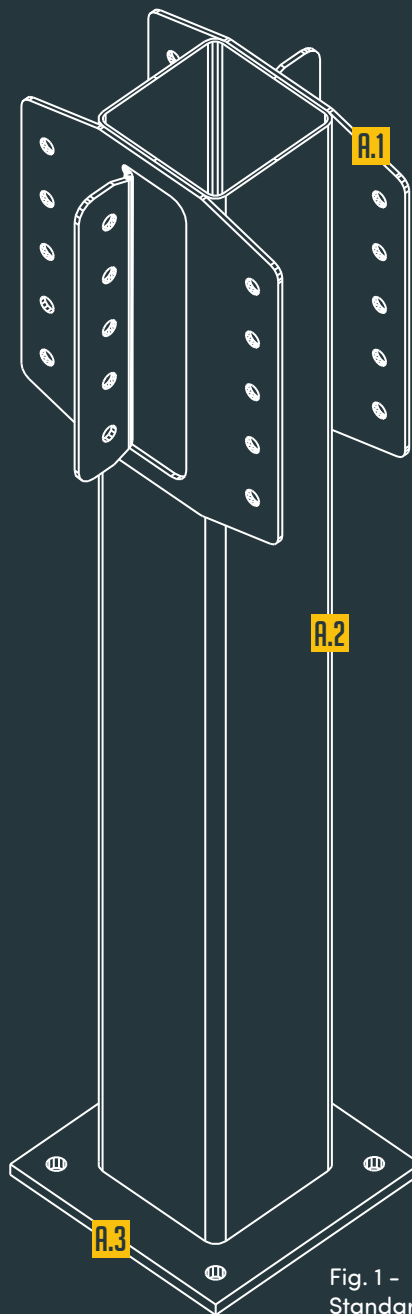

Fig. 1 - Standard footplate
- cross-section 200 x 200 x 10 mm or 300 x 300 x 15 mm, defined according to the loads to be transmitted to the ground (Fig. 1),